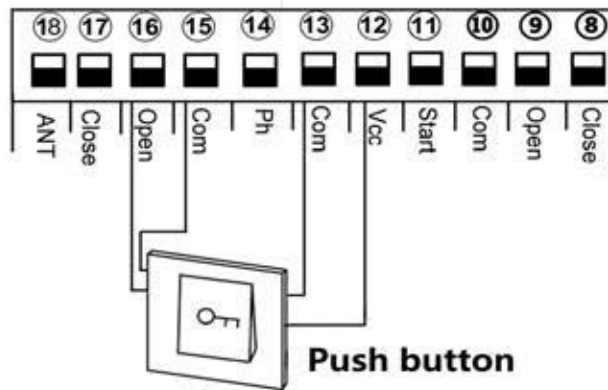

Fig 13
6.7.Connect to open device. Fig 13